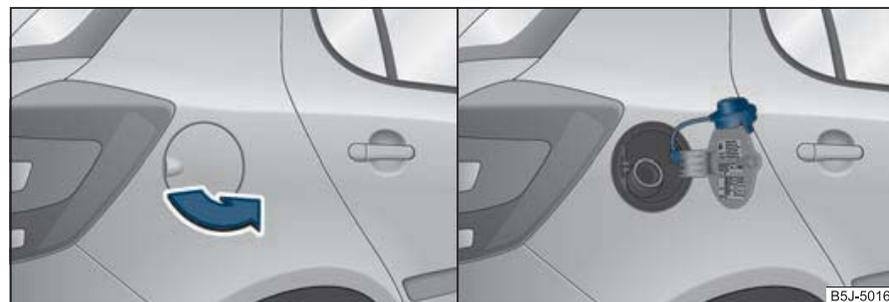

Fig. 138 Right rear side of the vehicle: Fuel filler flap/fuel filler flap with cap unscrewed
Your vehicle can only be operated with **unleaded petrol**, which complies with the standard **EN 228** (in Germany also **DIN 51626 - 1** or **E10** for unleaded petrol with the octane rating **95 RON** and **91 RON** or **DIN 51626 - 2** or **E5** for unleaded petrol with the octane rating **98**). On the inside of the fuel filler flap, you will find the information regarding the RON required by your engine ⇒ page 156, fig. 138 - right.
- Open the fuel filler flap with the hand ⇒ fig. 138 - left.
- Unscrew the fuel filler cap anti-clockwise and place the fuel filler cap from above on the fuel filler flap ⇒ fig. 138 - right.